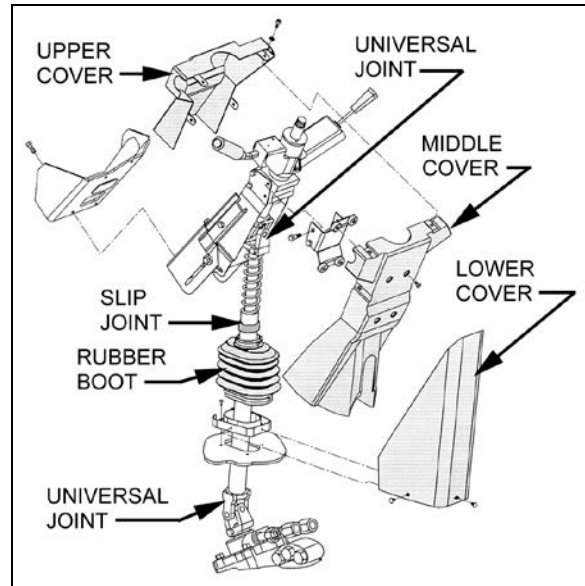

FIGURE 9: STEERING COLUMN COVERS 14040
1. From the front driver's compartment area, remove the three plastic fasteners on steering column lower cover. Remove the lower cover (Fig. 9).
2. Remove the 2 clockspring mounting screws and then remove the clockspring. You will have to disconnect the clockspring harness connector located lower along the steering wheel column. If necessary, remove the steering column covers (Fig. 9).